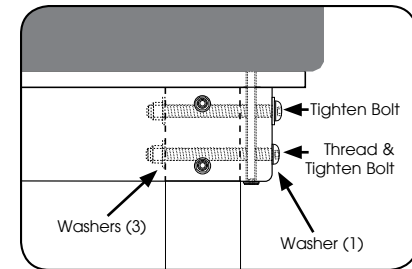

Fig. 2
3. Install the Short Bolts on either end of the stretcher beam and tighten the bolts on both ends. Make sure the stretcher beam is flush with the adjoining rails while tightening bolts. (Fig. 2)